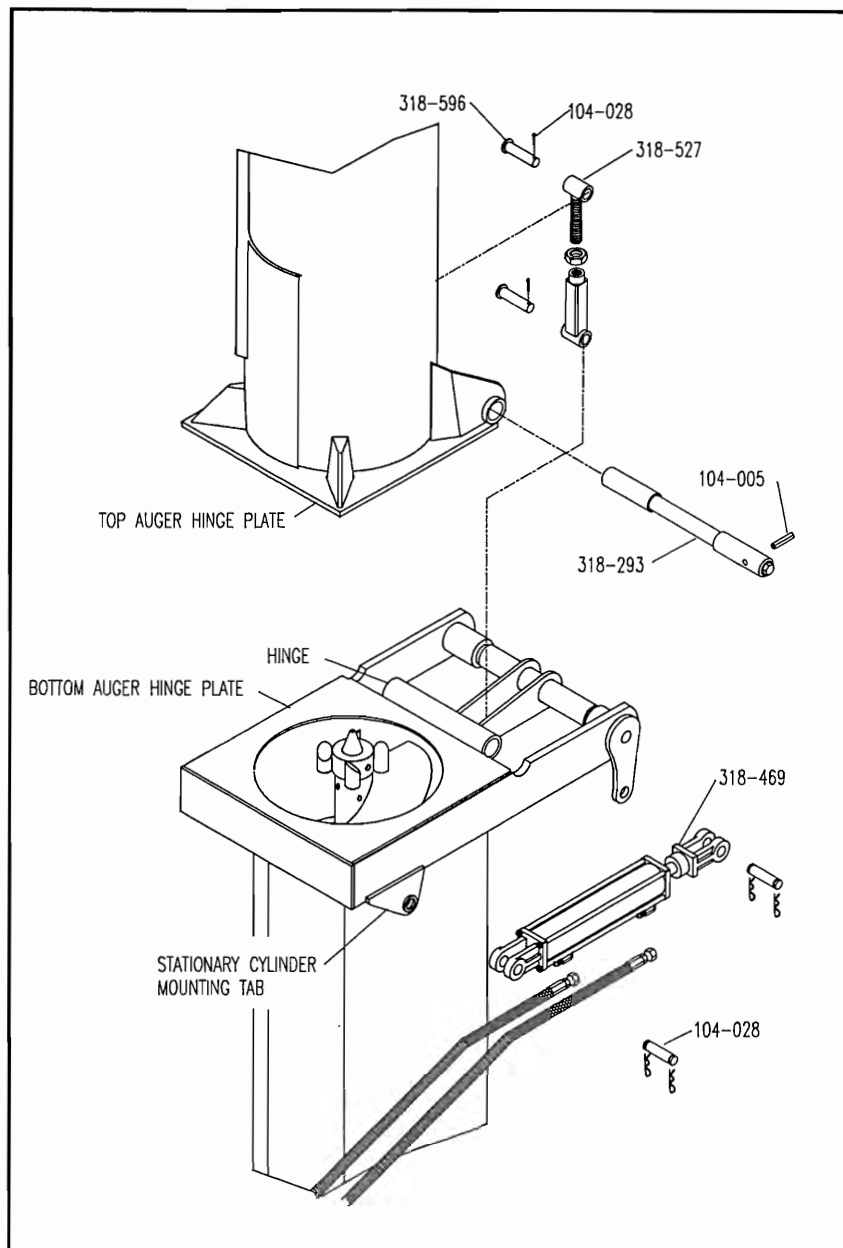

FIGURE 5: AUGER HINGE ASSEMBLY
1. See Figure 5. Place top auger plate in line with bottom auger plate in the transport (folded) position. Grease auger hinge shaft (318-793) and insert into hinge from left to right. Be sure nut end of shaft is on the side away from the grain cart. If shaft does not slide in easily it may be hit with a rubber mallet. Damage may be caused to the nut if a metal hammer is used. The shaft will become difficult to remove if damage occurs. If a rubber mallet is not available, some protection may be obtained by inserting a bolt into the nut before striking with a hammer. Remove bolt from nut after shaft is installed.
4. See Figure 5 for assembly of 2½" x 8" cylinder, base end to stationary mounting tab, leaving rod end of clevis loose. Attach hoses to fittings on cylinder.